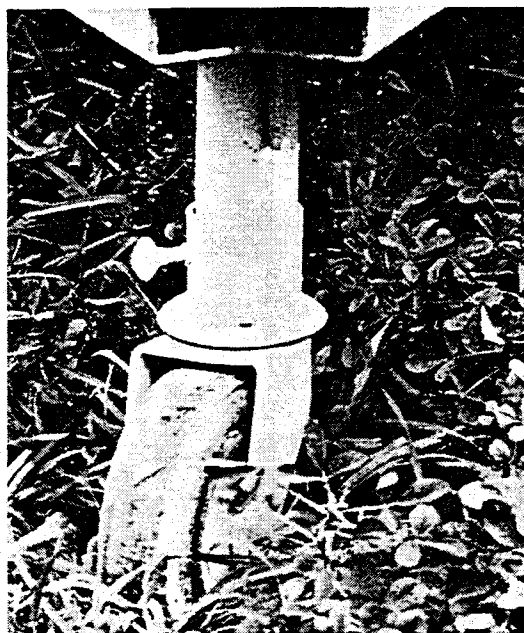

FIG. 4
**FRONT JACK** — Crank the front jack counter clockwise until the dolly wheel is off the ground. Loosen, but do not remove, the thumb screw which holds the dolly wheel to the jack stand (FIG. 4). Remove wheel and store. Crank the jack all the way up. If this procedure is not followed, the front jack stand may be damaged if it should happen to dig into the ground or pavement.
**UNHITCH UNIT** — Once the unit is level from side-to-side it may be unhitched. Install the dolly wheel (FIG. 4). Crank down the front jack. Place a board under the dolly wheel if the ground is too soft. Unfasten the safety chains from the hitch platform. Disconnect the electrical pigtail connection and break-away cable from the towing vehicle. Lift the lever and